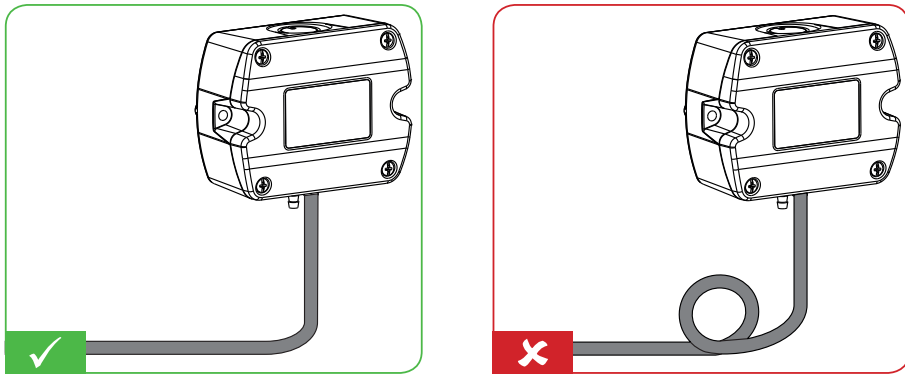

Fig. 8 Pressure hose route
- Connect the pressure hose (included in the scope of supply) first to the EE610 and then to the nipples at the duct. Route the pressure hose for avoiding sharp bends which might lead to the hose obstruction („Fig. 8 Pressure hose route“).